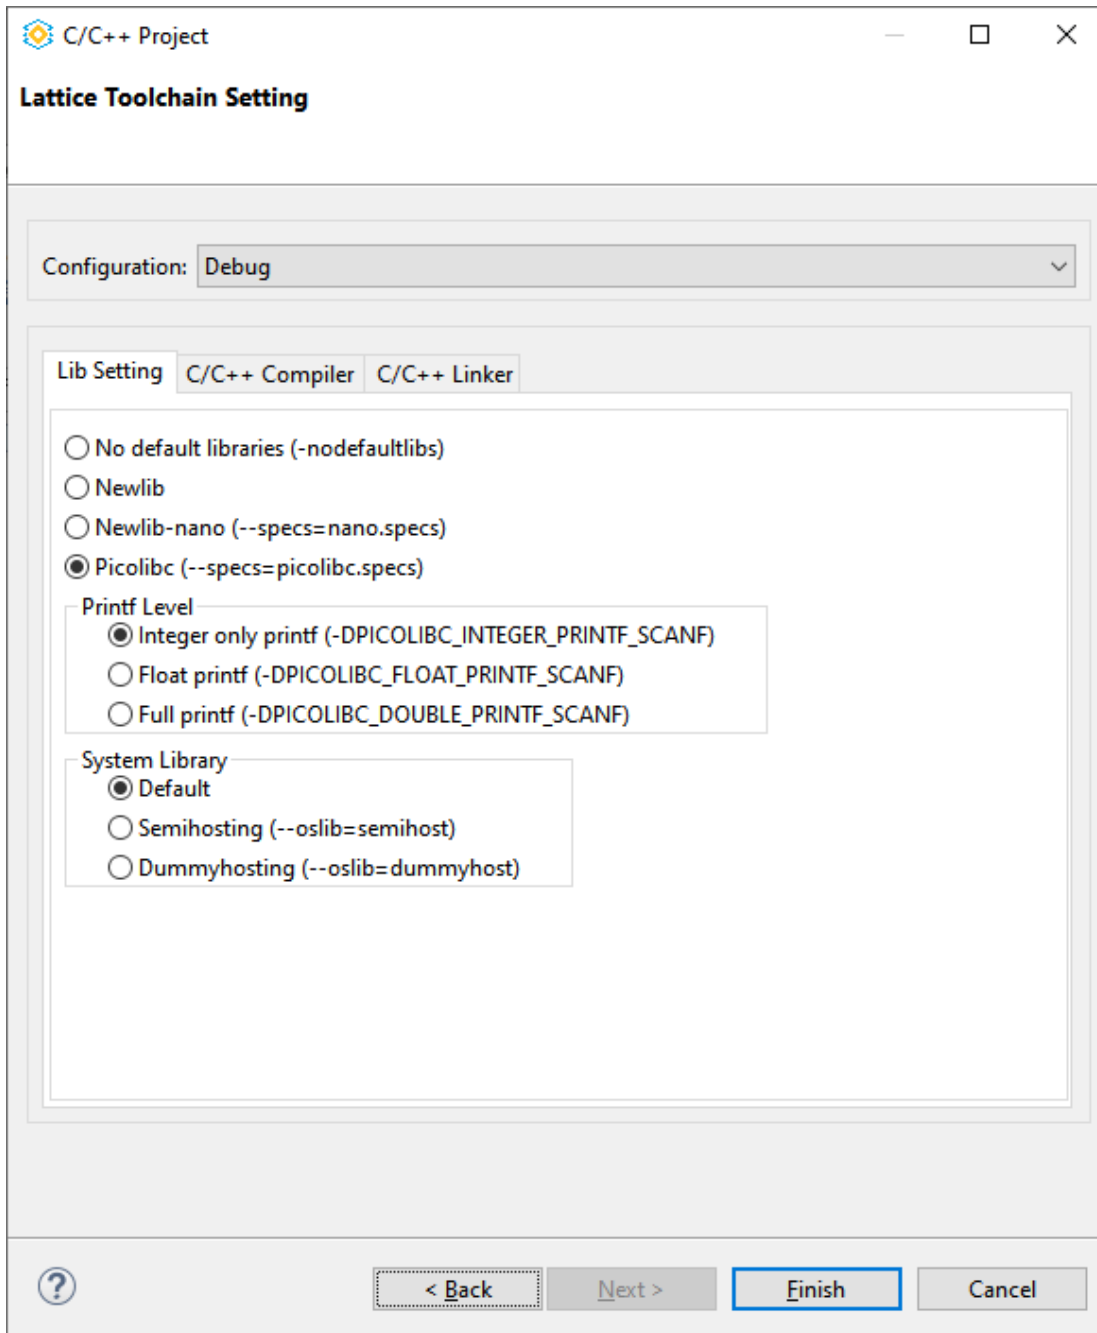

Figure 2.83. Create C/C++ Project
- Click **Next**. The C/C++ project dialog (Figure 2.83) opens.